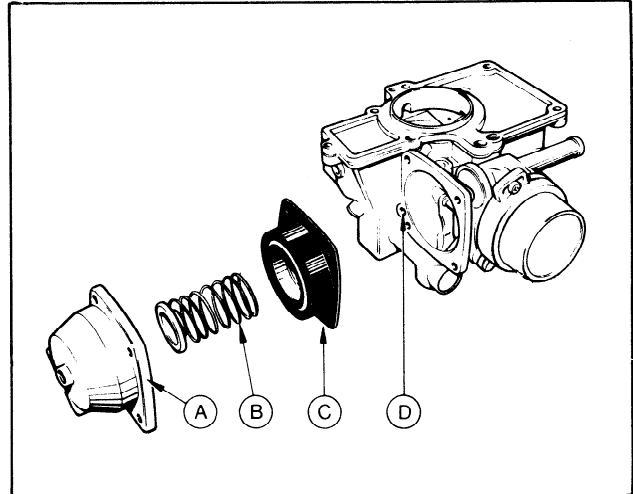

FIG. 30 Control Vacuum Diaphragm Assembly
2. Remove four torx screws and remove diaphragm housing return spring and guide (Figure 30).
NOTE: The vacuum hole in diaphragm must line up with supply galleries in both carburetor body and housing (Figure 30). When installing assembly, hold air valve fully open until housing is tightened. This will ensure that diaphragm is not trapped.